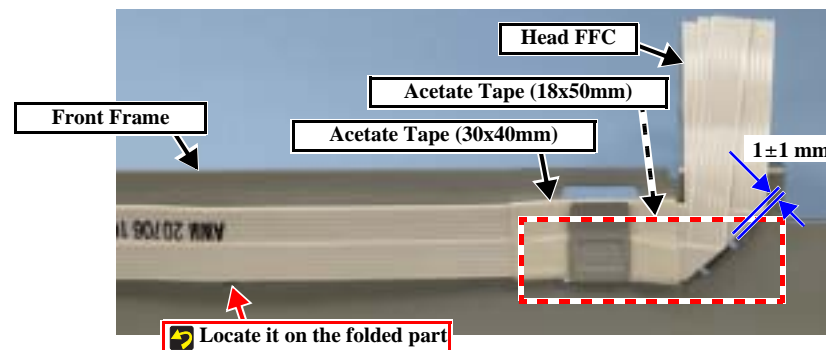

Figure 4-74. Removing the Head FFC
8. Release the Head FFC from the front frame. (Fig. 4-74)
2. Remove the Head FFC from the Front Frame. (Fig. 4-74)
- After installing the Head FFC as shown, move the carriage several times and confirm that the FFC is free from undue tension or excessive allowance. (Fig. 4-74)